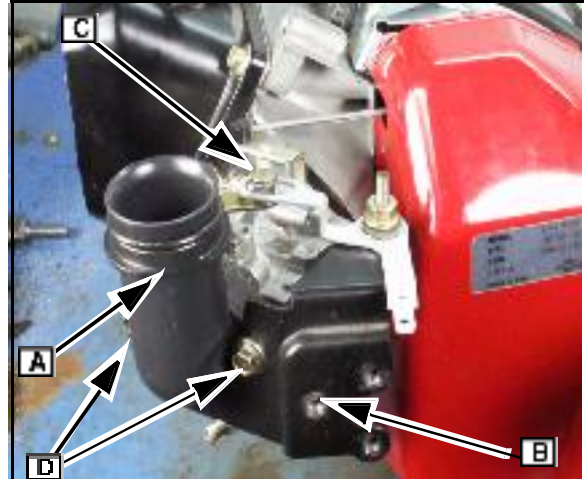

Fig. 35
10. Install the intake manifold (A) and the bracket for the fuel shut-off valve (B). Engage the choke control (C) as shown.
11. Torque carburetor mounting bolts ([D] Fig. 35) to values listed. **See SECTION 14- ENGINE SPECIFICATIONS.**